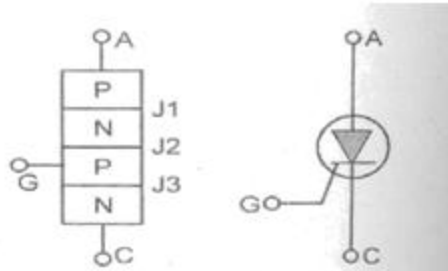

Figure 1 Symbol for SCR
As shown in figure 1 it is a four layered three terminal device, layers being alternately P-type and N-type silicon. Junctions are marked J₁, J₂, J₃ whereas terminals are anode (A), cathode (C) and gate (G). The gate terminal is connected to inner P-type layer and it controls the firing or switching of SCR.
The biasing of SCR is shown in figure 1(a). The junction J1 and J3 become forward biased while J2 is reverse biased. In figure 1 polarity is reversed. It is seen that now junction J1 and J3 become reverse biased and only J2 is forward biased.